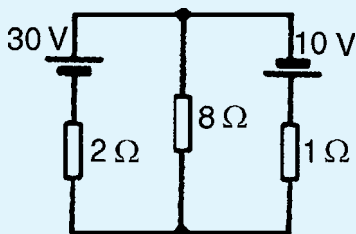

Figure 13.26
2. Use the superposition theorem to find the current in the 8Ω resistor of Fig. 13.26 $[0.385 \text{ A}]$